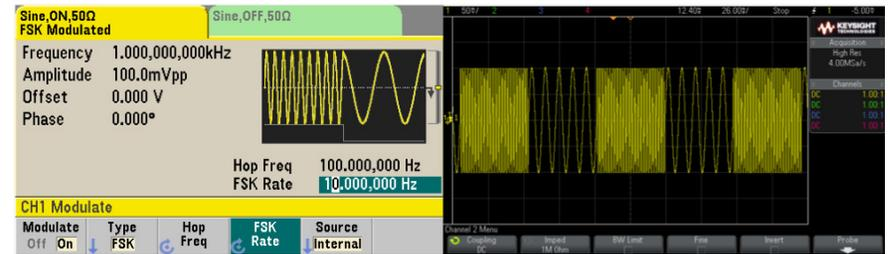

Figure 15. Simple FSK modulation setup and output shown on oscilloscope
**FSK** (Frequency-Shift Keying) – This is a form of frequency modulation in which information is transmitted using a pair of discrete frequencies to transmit binary (0s and 1s) information. This is commonly used in many communication systems. Figure 15 shows an example.
**Step 2: Use the reference function generator's trigger output.** Set up your trigger for both channels on your second function generator. This tells the second function generator to start at the same time as the reference function generator. **Button presses: Select Channel 1 output button and then press the Trigger button. Select Trigger Setup > Source > Ext (External). On the same screen menu level, select zero seconds delay and trigger slope on the rising edge. See Figure 15 on the external trigger menu.** On the first reference function generator, set up the trigger for both channels to "manual" and "zero delays."